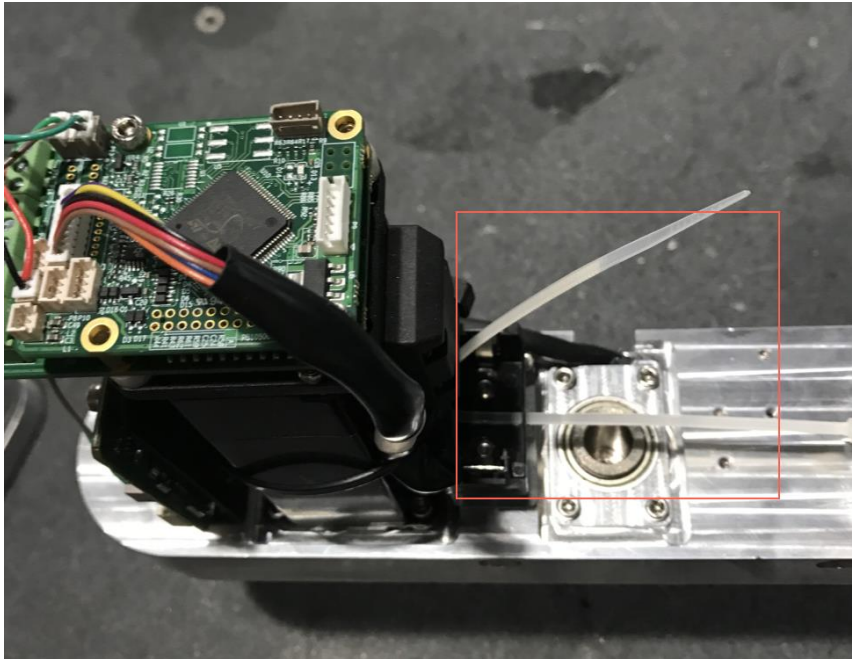

Figure 7.17 Insert wire tie
- Step 7** Wire the zip-tie through the battery holder on the Forearm to fasten the battery, as shown in Figure 7.17.